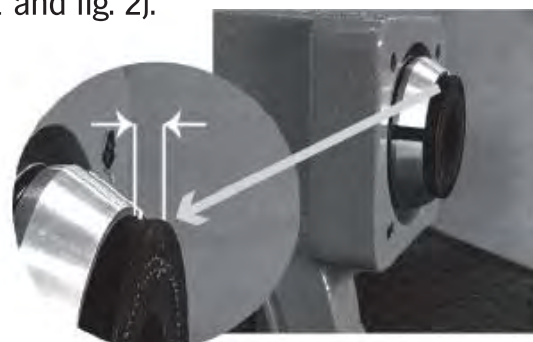

Fig. 1
6. Lay the press rings. Between the end of the hose and the press ring, there must be a specific distance (see fig. 1 and fig. 2).
Pump model	Approximate distance outside press ring (Fig. 1)